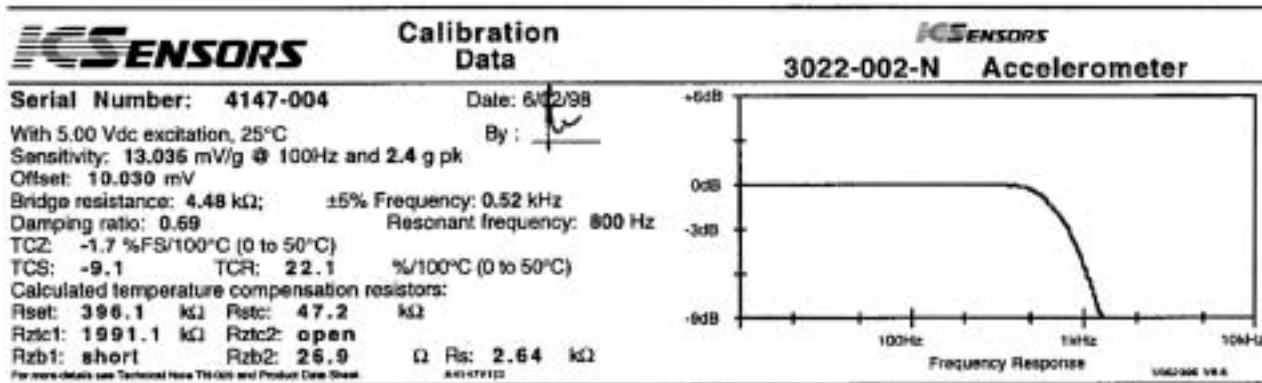

Figure 1. Calibration Data Sheet
- Actual test data for this parameter is included on the calibration sheet provided with each sensor. A sample of this calibration sheet is shown as Figure 1.